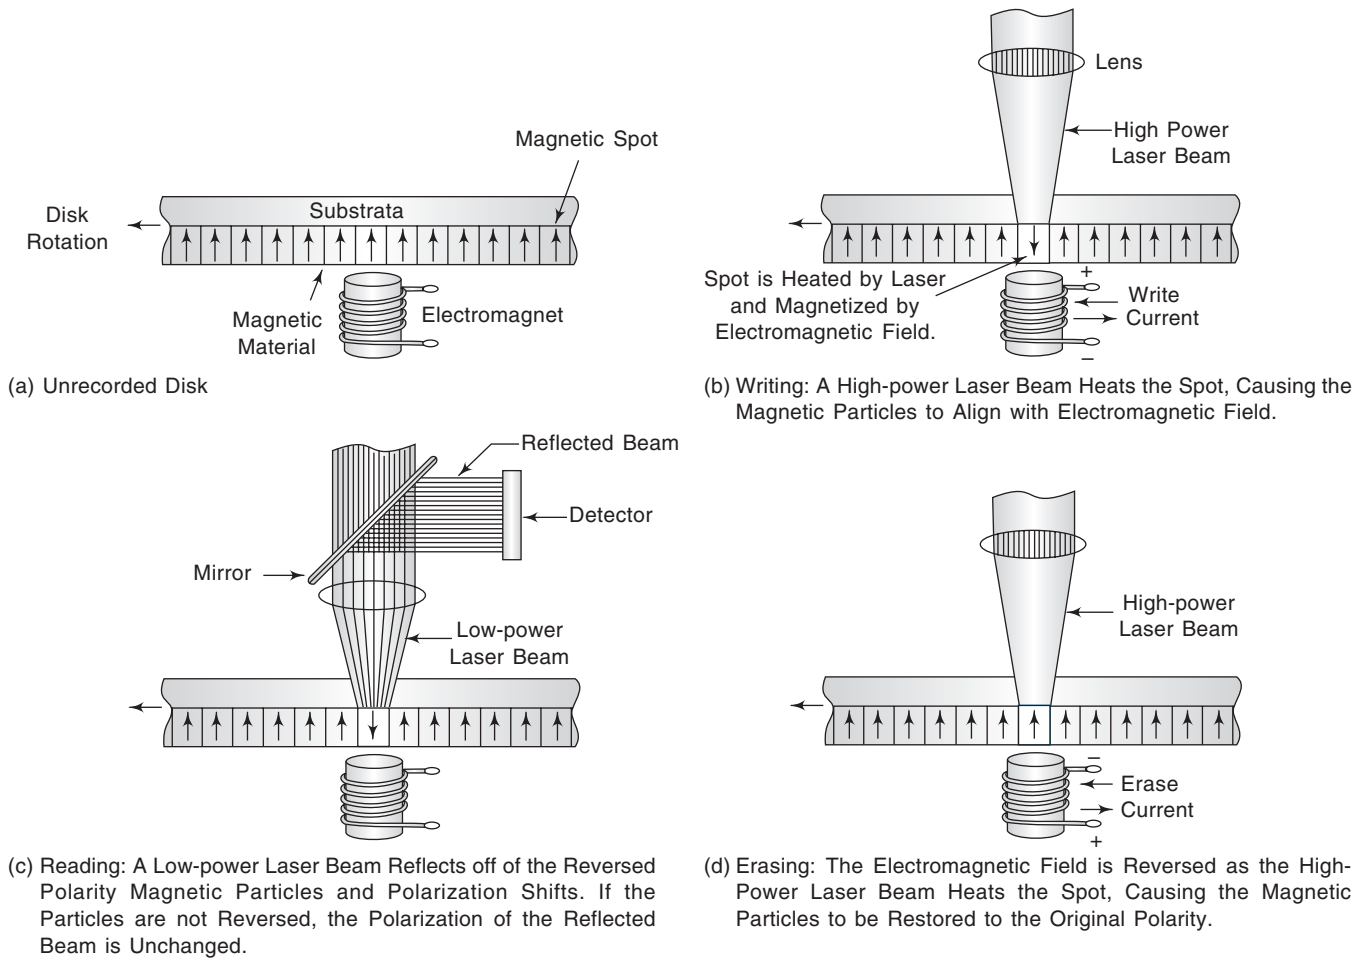

Fig. 15.40 Illustrating the Basic Principles of a Magneto-Optical Disk.
The basic principle of a magneto-optical (MO) disk is illustrated in Fig 15.40.